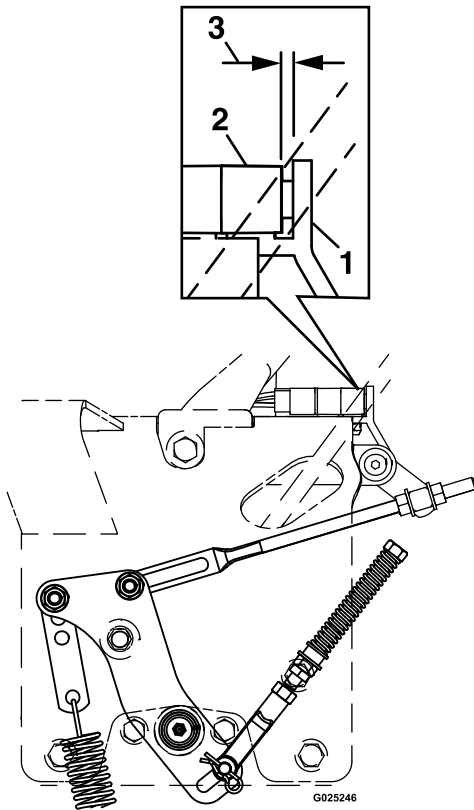

Figure 16
2. Pull the speed control lever back to neutral. Check that the neutral safety switch actuating tab has depressed the plunger of the switch so that there is no more than 3/16–1/4 inch (4.8–6.4 mm) between the tab and the switch (see Figure 16).